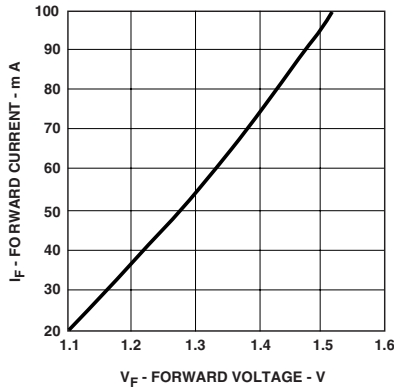

Figure 3. Typical forward voltage and current characteristics
7. Optical rise and fall times are measured from 10% to 90% with 62.5/125 μm fiber. LED response time with recommended test circuit (Figure 3) at 25 MHz, 50% duty cycle.